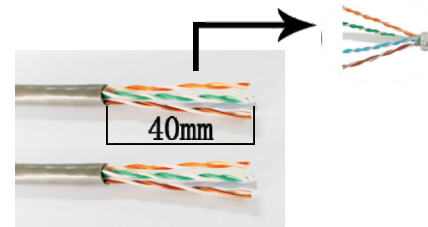

Figure 5- Strip 40mm of cable jacket
1. Strip approximately 40mm of the cable jacket and cut off the plastic cross. (Figure 5) (Only 22~26 AWG Solid and stranded wire can be used with the Keystone Jack.)